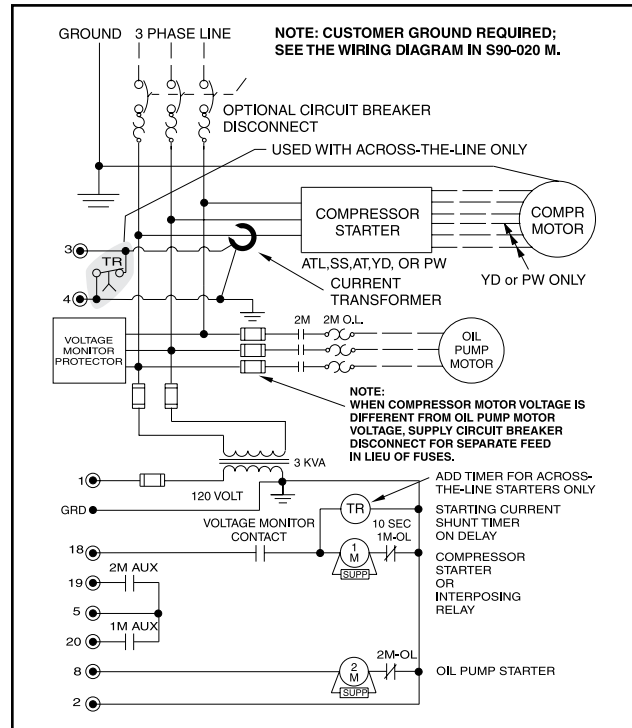

Figure 12 - STARTER WIRING DIAGRAM
**WARNING** If the shunting device is not installed, the Analog I/O board on the Quantum™ LX panel may be severely damaged at start-up. See Figure 12.
7. The compressor motor Current Transformer (CT) is installed on any one phase of the compressor leads.